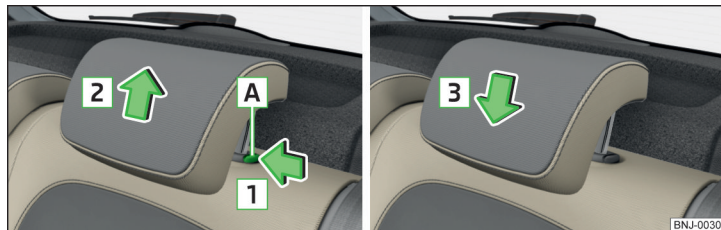

Fig. 74 Removing/installing the headrest
- ▶ Press locking button **A** in the direction of arrow **1** and pull out the head restraint in the direction of arrow **2** » Fig. 74.